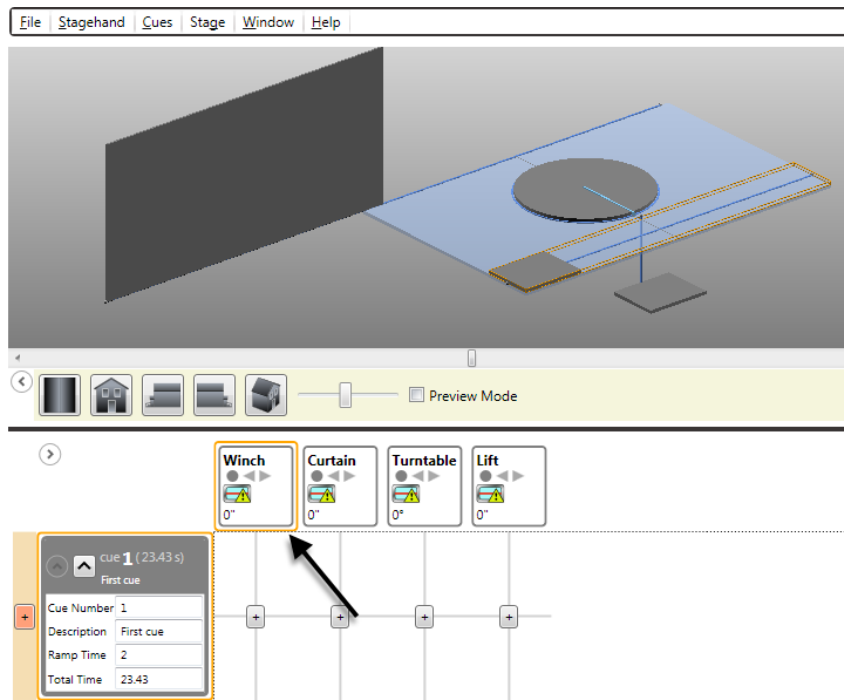

Figure 210
2. Select the motor to which you wish to add a **Spike** (Figure 210).